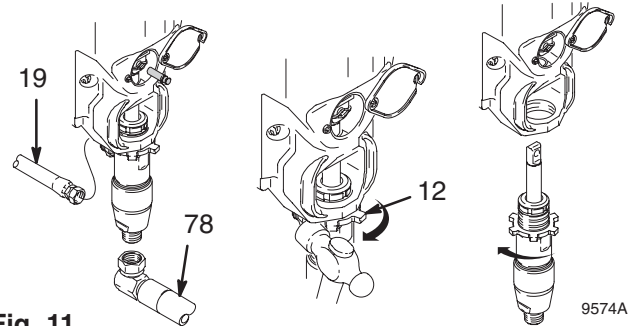

Fig. 11 9574A
5. Fig. 11. Remove suction tube (78) and hose (19).
6. Loosen pump jam nut (12). Unscrew pump.
5. Fig. 11. Install suction tube (78) and hose (19).